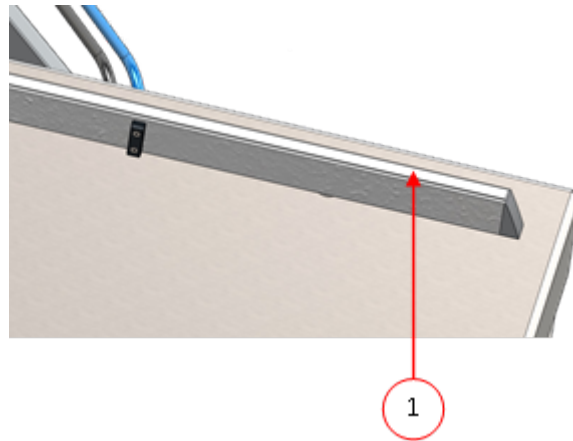

Figure 26: Replacing the Silicone Rubber of the Silicone Holders
1. Pull the old silicone rubber from the holder, see *Figure 26: Replacing the Silicone Rubber of the Silicone Holders* on page 60.